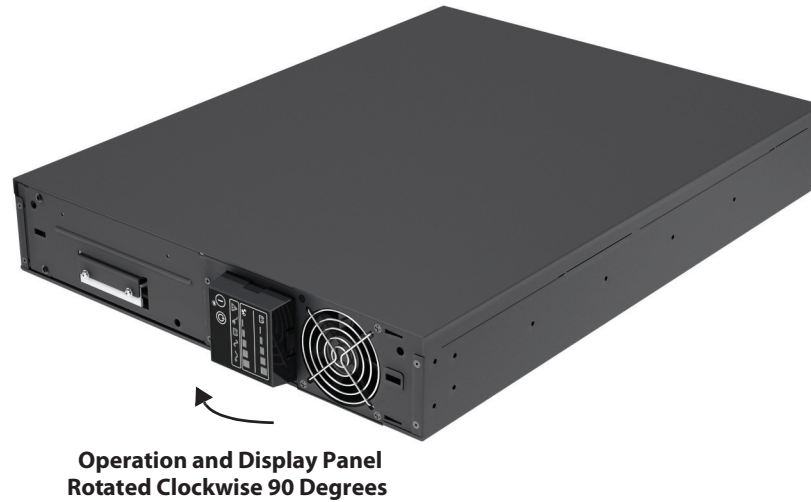

Figure 6: Rotate the operation and display panel
- b. Using the finger grips on the display panel, gently pull and rotate 90 degrees clockwise and snap it back into position as shown in Figure 6.